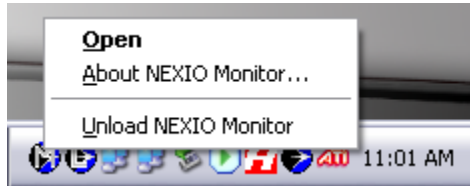

Figure 5-3 Open NEXIO Monitor
- 1 Right-click on the **NEXIO Monitor** icon in the system tray (see Figure 5-3).